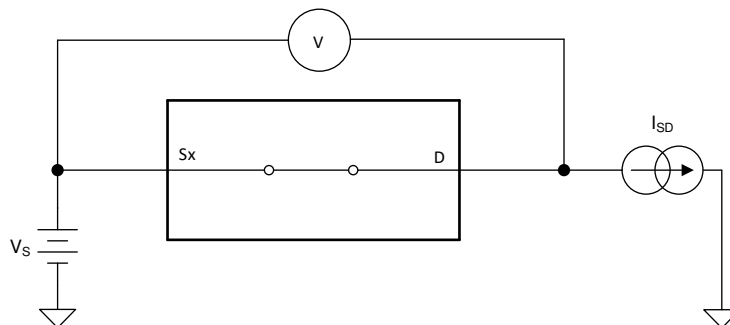

图 7-1. On-Resistance Measurement Setup
The on-resistance of a device is the ohmic resistance between the source (Sx) and drain (D) pins of the device. The on-resistance varies with input voltage and supply voltage. The symbol  $R_{ON}$  is used to denote on-resistance. The measurement setup used to measure  $R_{ON}$  is shown in 图 7-1. Voltage (V) and current ( $I_{SD}$ ) are measured using this setup, and  $R_{ON}$  is computed with  $R_{ON} = V / I_{SD}$ :